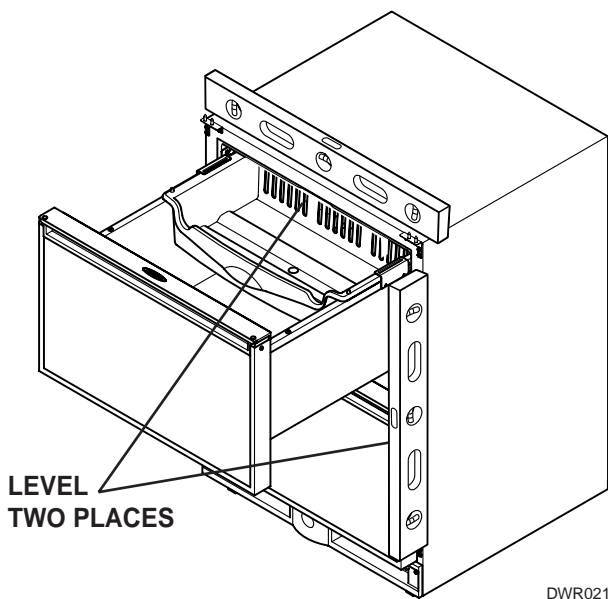

Figure 6
4. Place the unit in position where it is to be installed. Re-check cabinet height and levelness (Figure 6) and adjust if necessary.